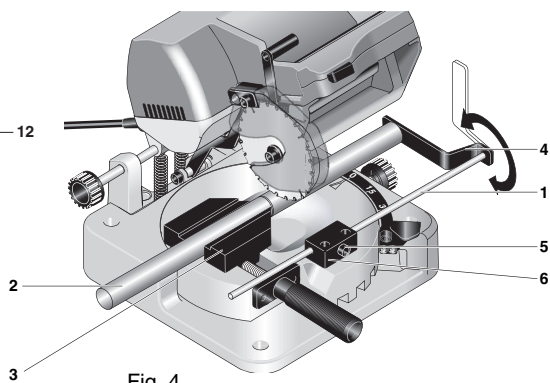

Fig. 4
8.2.3 Working with the Length Stop (see fig. 4). 10